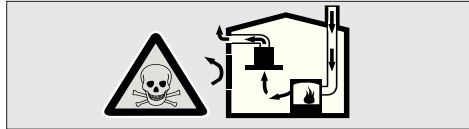
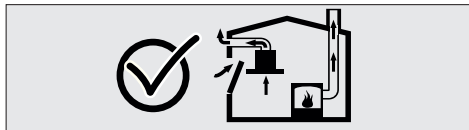

Figure 2: Risk poisoning
Figure 3
**DANGER:** Air circulation items (e.g. stoves, burners, water heaters operating on gas, oil, wood or coal) take the combustion air from the installation place and expel the exhaust gasses through an exhaust gas system (e.g. stack). Air is absorbed from the kitchen and adjacent rooms with the running hood. Vacuum occurs if adequate air entrance is not provided. In such a case, poisonous gasses are reabsorbed from the stack and exhaust gas channel and re-enter in the house. Figure 2. For this reason, adequate fresh air intake should always be ensured. Figure 3